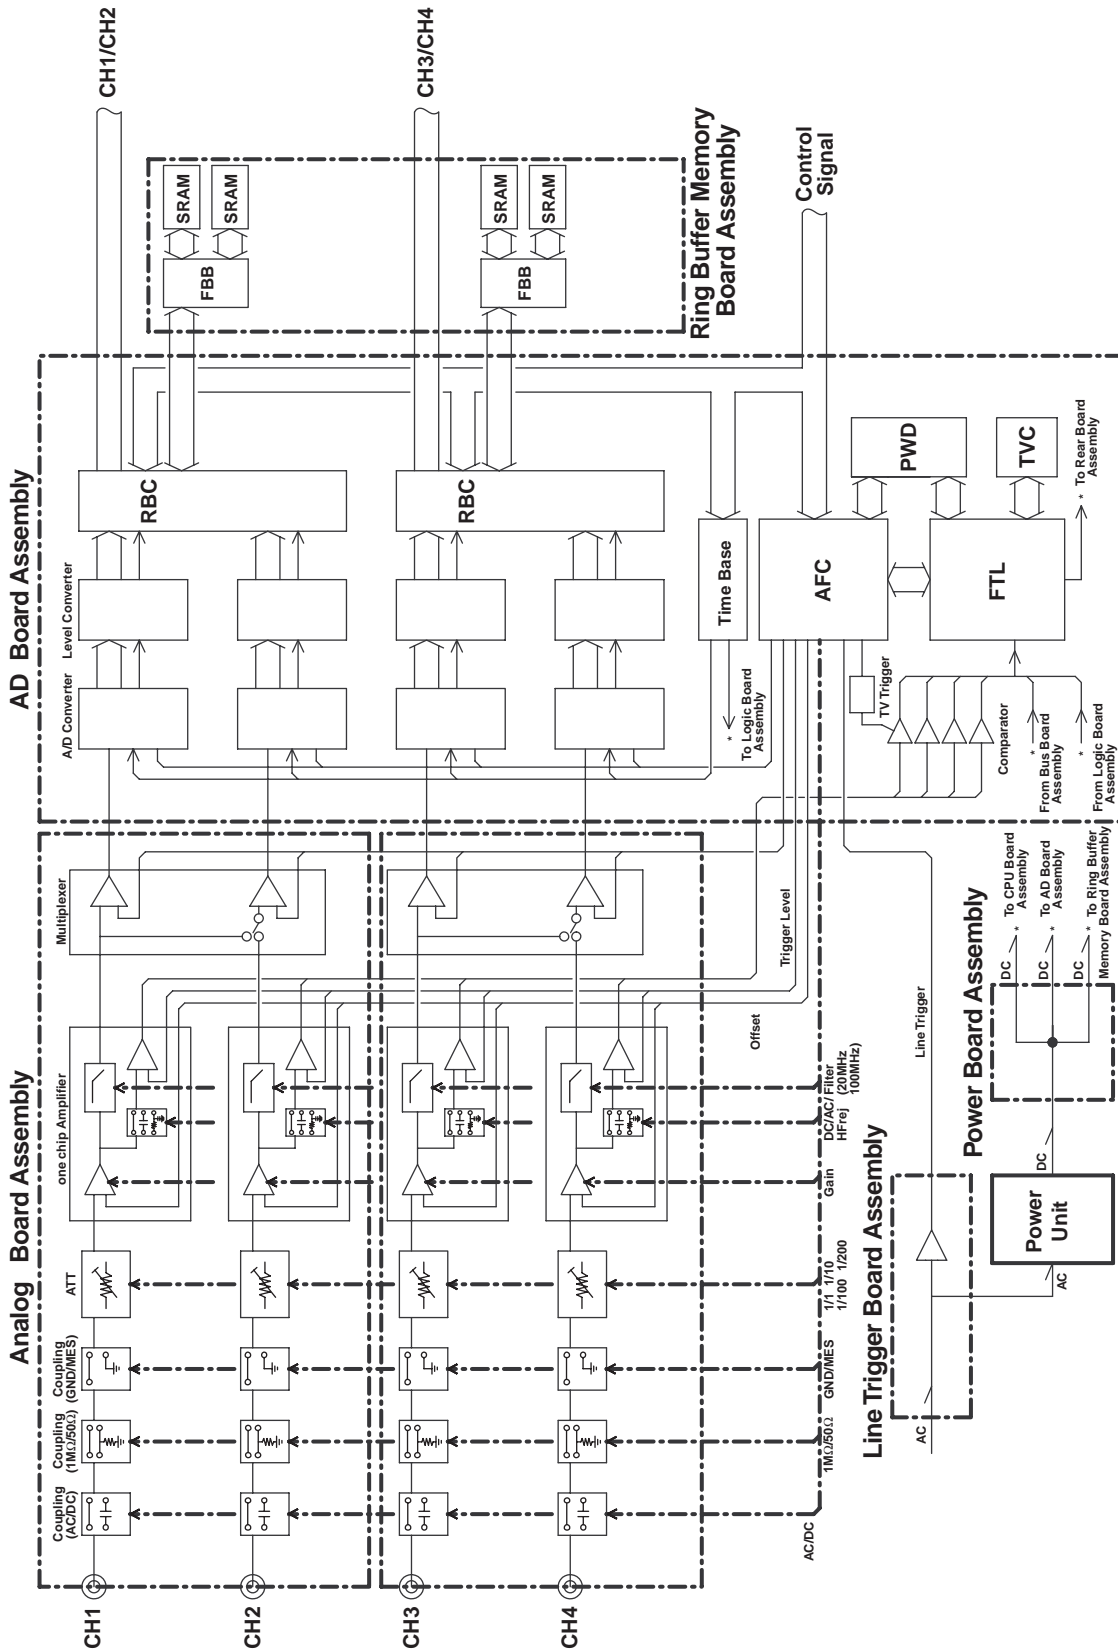
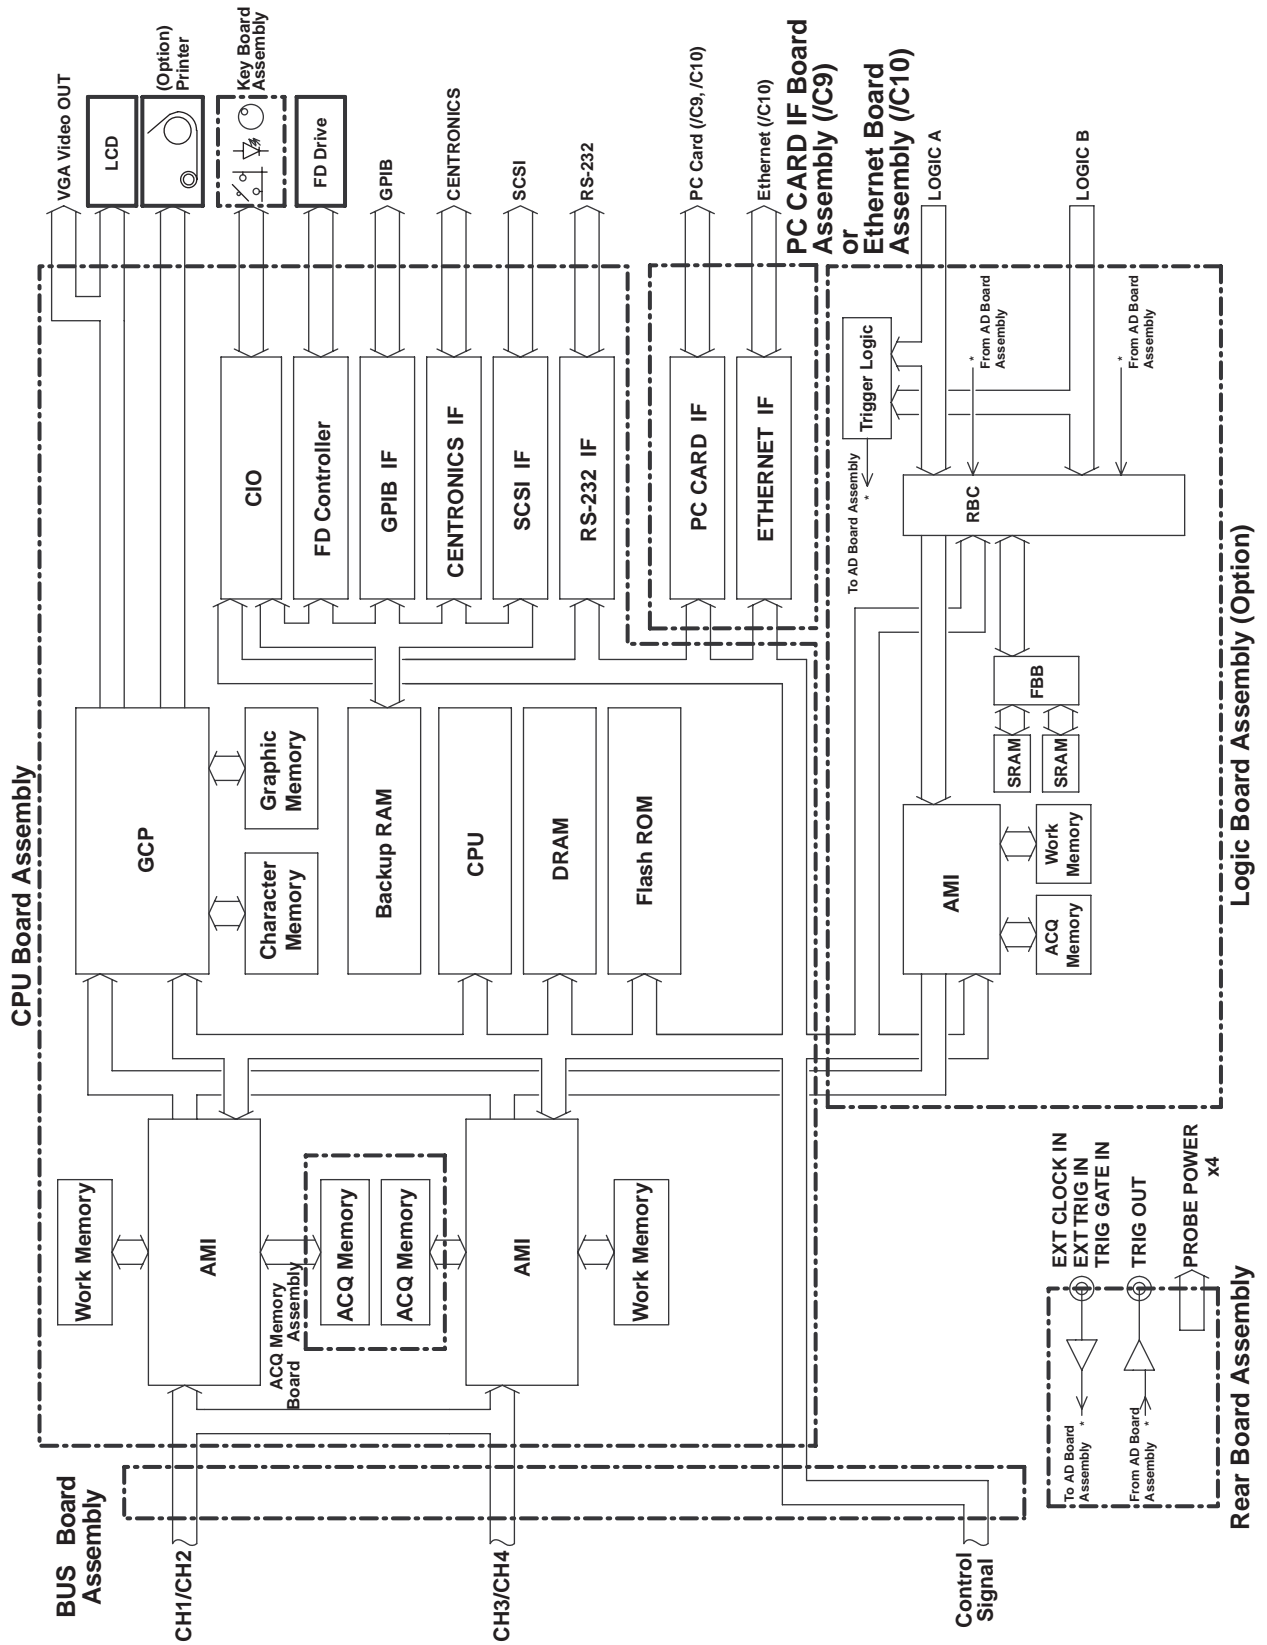
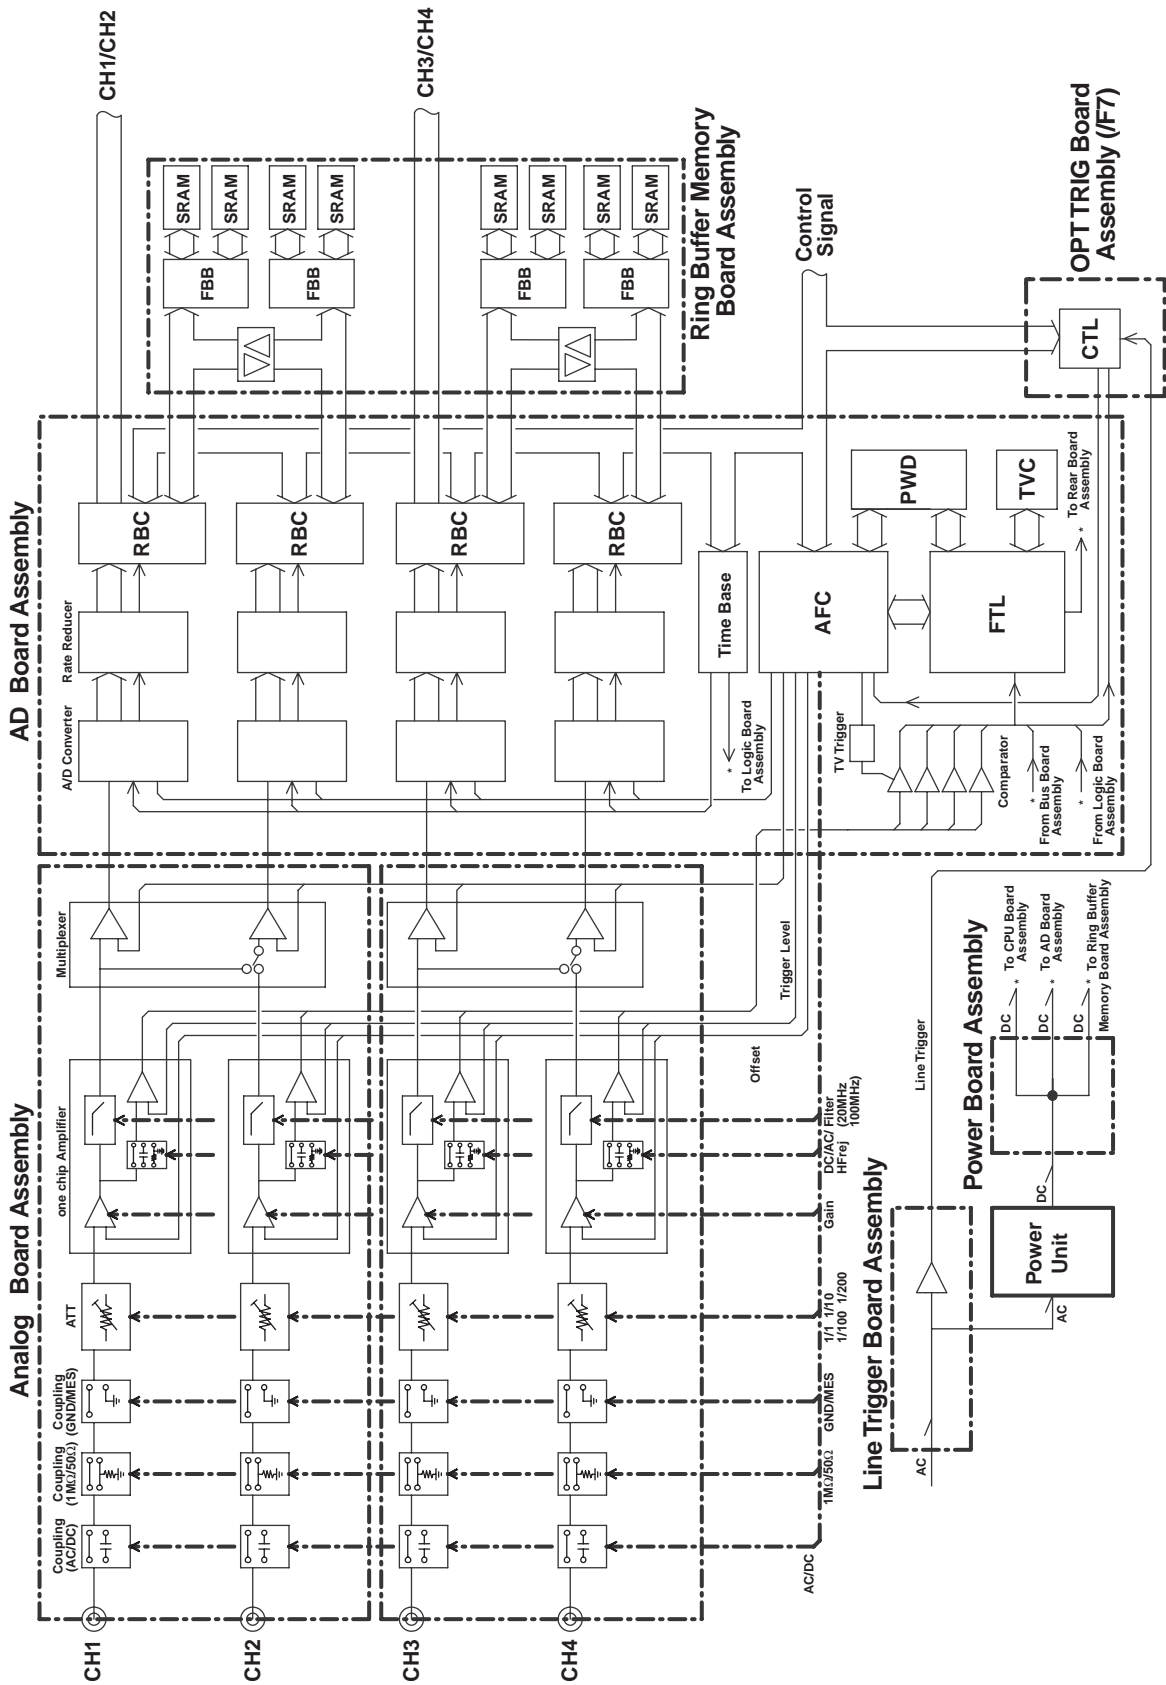

Figure 4.1 Block Diagram (Analog Section) of the DL7100
Figure 4.2 Block Diagram (Digital Section) of the DL7100
Figure 4.3 Block Diagram (Analog Section) of the DL7200
The block diagrams of the DL7100 are shown in figure 4.1 and figure 4.2.
Figure 4.1 and figure 4.3 are block diagrams of the circuit from the analog input to the data acquisition circuit including the attenuator, one-chip amplifier, analog multiplexer, A/D converter, trigger comparator, trigger circuit, and the ring buffer memory and its controller.
Figure 4.2 and figure 4.4 are block diagrams of (1) the data processing section which processes the acquired data and displays the waveform, (2) the CPU, and (3) the peripheral circuitry. In addition, figure 4.2 and figure 4.4 include a block diagram of the logic input circuit.
As indicated in figure 4.1, the vertical sensitivity from 10 V/div to 2 mV/div is achieved by switching the gain on the attenuator and the one-chip amplifier IC.